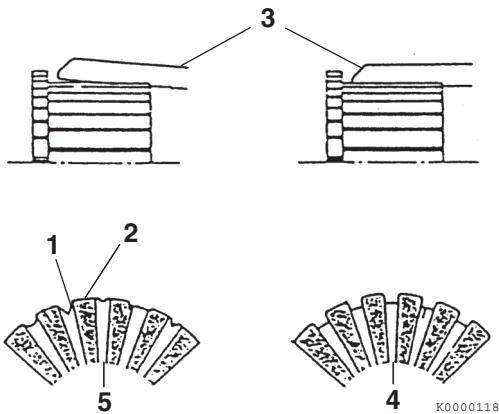

Figure 11-14
Measure the depth of the insulating material (**Figure 11-14, (1)**) between commutator segments (**Figure 11-14, (2)**). If the depth measures less than the limit, use a hacksaw blade (**Figure 11-14, (3)**) to remove the insulating material until the depth is within the limit.
A normal commutator condition is indicated in (**Figure 11-14, (4)**). An abnormal commutator condition is indicated in (**Figure 11-14, (5)**).